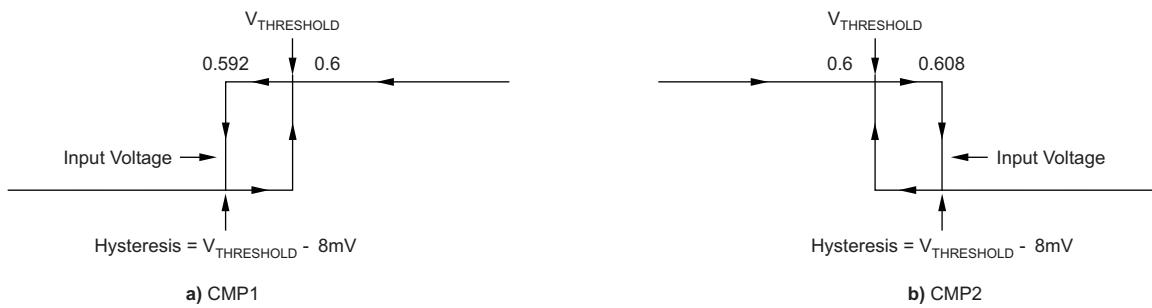

Figure 1. Comparator Hysteresis
(1) Hysteresis refers to the threshold (the threshold specification applies to a rising edge of a noninverting input) of a falling edge on the noninverting input of the comparator. See Figure 1.
(2) Specified by design.
(3) The comparator response time specified is the interval between the input step function and the instant when the output crosses 1.4 V.